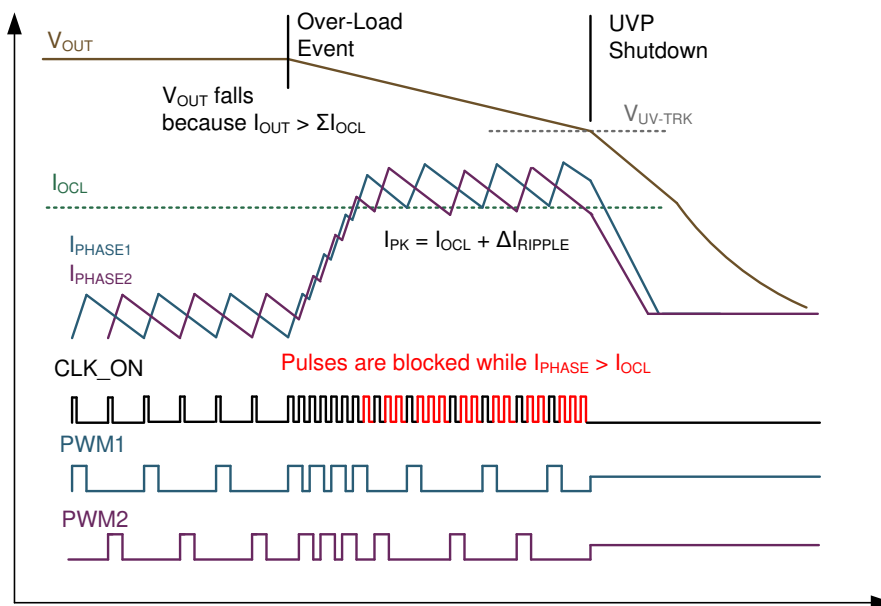

Figure 7-32. Per-phase OCL (2 phase example)
- **Per-phase overcurrent limit (OCL)** is a programmable cycle-by-cycle *valley current* limit for each individual phase current, to protect against inductor saturation. TPS536C7B1 does not pass PWM pulses to phases when their current is above the configured OCL threshold. Other than cycle-by-cycle current limit, no action is taken when the per-phase OCL is engaged. Typically, in the case of a severe overload event, power conversion is disabled when the output voltage reaches the VOUT\\_UV\\_FAULT\\_LIMIT. This is illustrated in Figure 7-32. Program the OCL threshold using the IOUT\\_OC\\_FAULT\\_LIMIT command with the PHASE set to 00h. TPS536C7B1 supports values of 17 A to 130 A per phase.